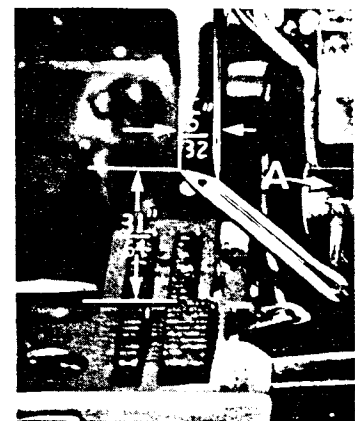

Fig. 10
Next, turn handwheel until looper is at the left end of its travel; check dimensions of upper looper point with respect to needle and throat plate (Fig. 10). If resetting is necessary, do it by moving the upper looper holder (A, Fig. 10). Figure 10 represents the dimensional setting for 695B001 and 002. For 695B003, the settings are  $9/64$  and  $35/64$  inch. For example, dimension  $31/64$  inch is increased by turning upper looper holder counterclockwise looking from left end of machine; dimension  $5/32$  inch is increased
If it becomes necessary to move looper thread pull-off (AF), be sure to take up all end play in needle drive shaft before tightening. If upper looper is located so that it is higher over throat plate than recommended in Fig. 10, the purl will tend to form near top edge. If upper looper is too low, the purl will form nearer bottom edge.